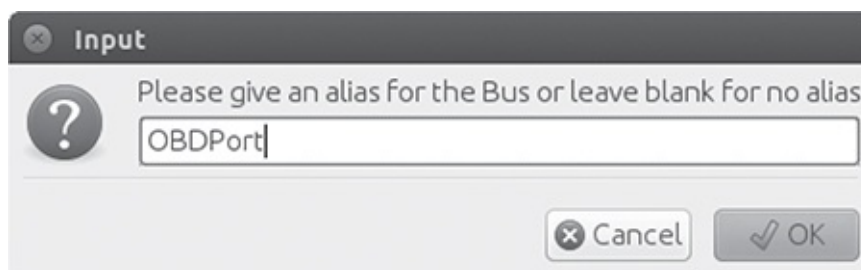

Figure 3-3: Creating a name for the CAN bus
2. Right-click the project and choose **Newbus**; then, give your bus a name (see Figure 3-3).